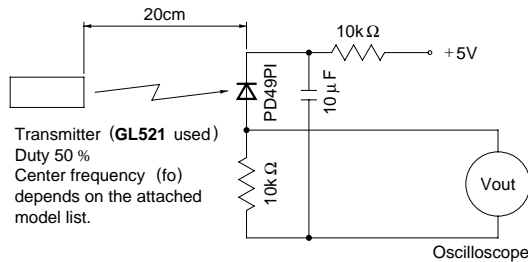
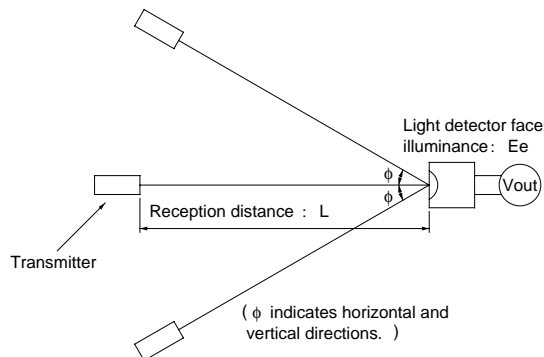

Fig. 1. Transmitter
Fig. 2. Standard optical system
*3 The burst wave as shown in the following figure shall be transmitted by the transmitter shown in Fig. 1.
Using the transmitter shown in Fig. 1, the output signal of the light detecting unit is good enough to meet the following items in the standard optical system in Fig. 2.
When $L=0.2$ to 6.5m , $E_e < 10\text{ lx}$ and $\phi = 0^\circ$ in Fig. 2, the output signal shall meet the electrical characteristics in the attached list.
When $L=0.2$ to 4.5m , $E_e < 10\text{ lx}$ and $\phi \leq 30^\circ$ in Fig. 2, the output signal shall meet the electrical characteristics in the attached list.
When $L=0.2$ to 3m , $E_e \leq 300\text{ lx}$ and $\phi = 0^\circ$ in Fig. 2, the output signal shall meet the electrical characteristics in the attached list.